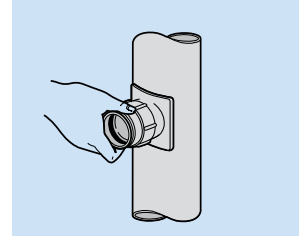

Fig. 46
- Slacken nut on boss to full extent. Enter boss into hole keeping the keyway to the last piece to enter the hole. Tighten outer locking nut (Fig. 46).